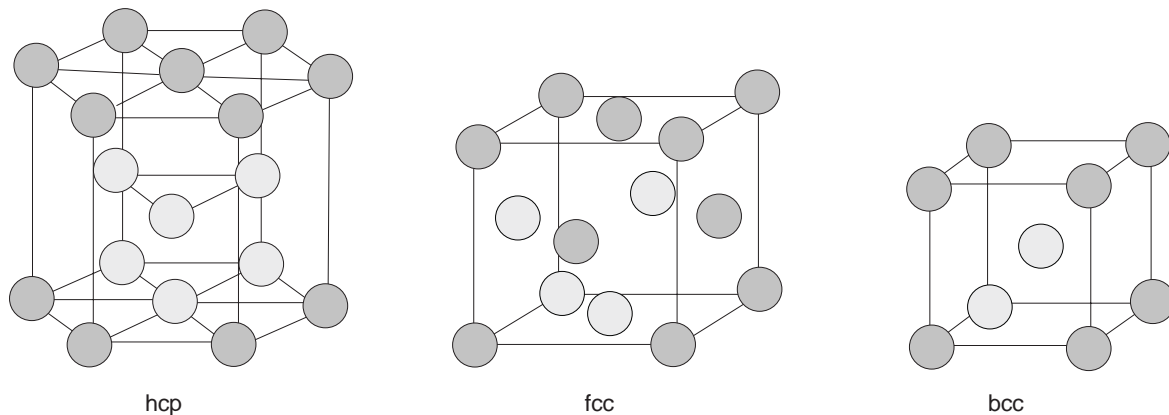

Figure 3.1 Schematic sketches of the three common metal crystal structures, showing atom locations.
The hexagonal close-packed (hcp) crystal structure, shown in Figure 3.1, is favored by a number of high-strength, light-weight metals (see Table 3.1) as well as zinc. Some hcp metals switch to a body-centered cubic (bcc) structure at high temperatures where thermal expansion forces the atoms farther apart.
Figure 3.1 shows the three common metal crystal structures. For clarity, only the atom positions are shown; in reality, the atoms are large enough to touch each other. For example, in bcc structures the center atom touches the eight corner atoms. In fcc the face-centered atoms touch the four nearby corner atoms, and in hcp the center atoms in the top and bottom bases touch the six surrounding atoms in the base.
Question: The crystal pattern for bcc is shown in Figure 3.1. How many atoms are there in each cube? (The crystal is made up of these cubes all packed together so that each corner atom is actually a part of eight cubes.)
- How many atoms are in each fcc cube in the pattern shown in Figure 3.1? 1, 2, 4, 14, none of these.